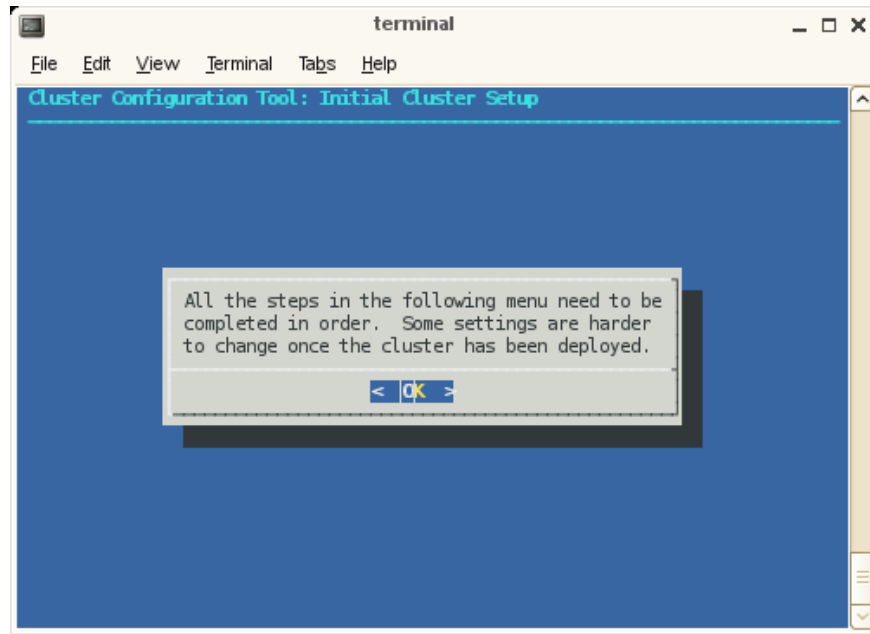

Figure 2-10 Cluster Configuration Tool: Initial Cluster Setup Screen
3. The **Cluster Configuration Tool: Initial Cluster Setup** screen appears, as shown in Figure 2-10 on page 49. Read the notice and then click **OK** to continue.